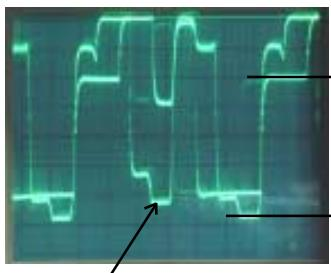

Fig. 2-1
6. Press the VOL. UP/DOWN button on the remote control until the red color level is adjusted to  $125 \pm 5\%$  of the white level. (**Refer to Fig. 2-1**)